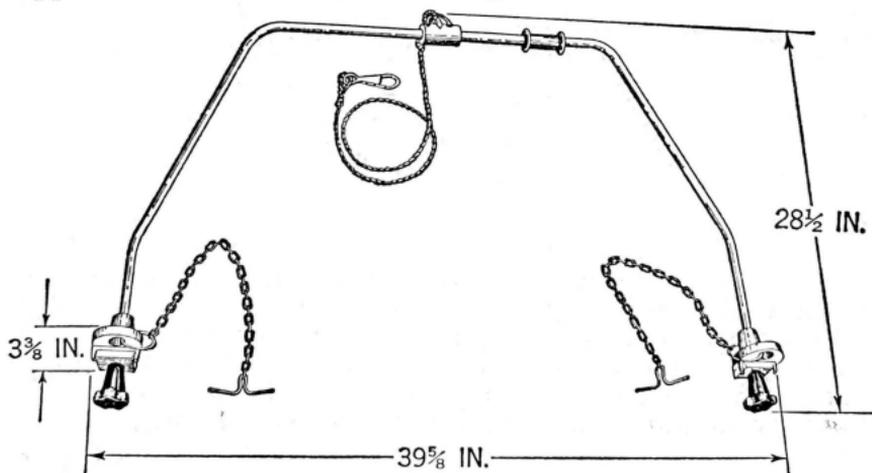

Fig. 1
2.01 The C Ladder Support is illustrated in Fig. 1. It consists of two screw clamp assemblies, grooved to fit the strand and attached to a "U" shaped member made of aluminum alloy pipe. The clamps are equipped with chains for encircling the cable and strand as an added safety measure. The "U" shaped member is for rigidly supporting the ladder away from the strand. A rope sling, attached at the center of the pipe, is used for attachment to a rung of the ladder as a safety measure while placing the ladder in the support. The "U" member is also equipped with a fitting to receive one side rail of the ladder for locating the ladder centrally in the support. The grooves in the clamps permit attaching the support to either lashed or ring supported cable without disturbing the cable.